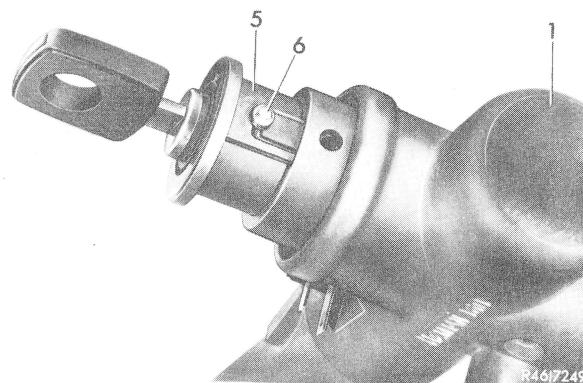

Fig. 5
- 4 Put key back into locking cylinder and turn to position „1“ (90° to the right). Push-in locking pin (6) and remove locking cylinder (5) (Fig. 5).
- 5 Turn locking cylinder to position „1“ and insert into steering lock, making sure that locking pin engages (Fig. 5).